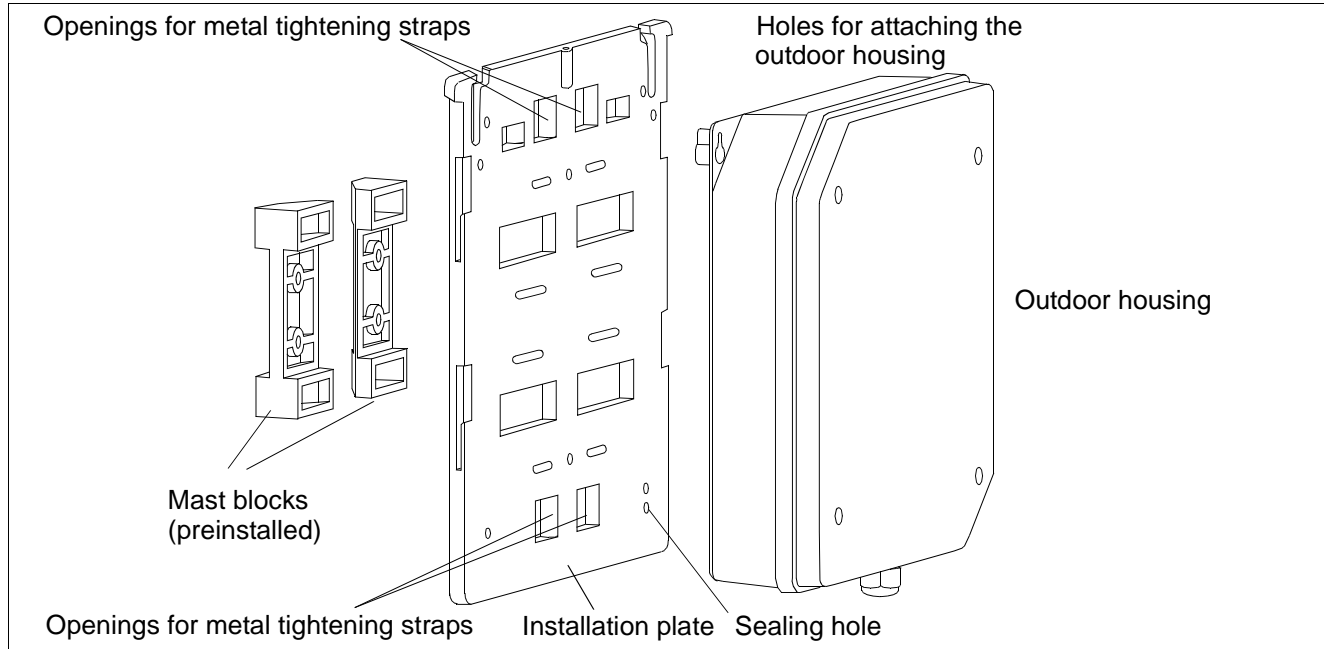

Figure 18 Outdoor housing with mounting plate and mast blocks
3. Feed the metal tightening straps through the specially-provided holes in the installation plate, see Figure 18.
Thread a sealing wire through the lower right fastening hole on the base and the sealing hole on the mounting plate, see Figure 18.
Thread a sealing wire through the lower right fastening hole on the base and the sealing hole on the installation plate and seal it (see Figure 18).